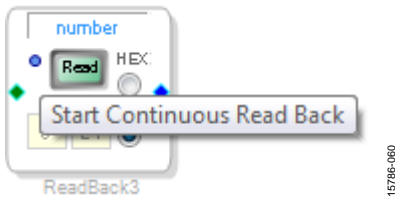

Figure 59. Activating Continuous Readback
- ii. On each of the two **DSP Readback** blocks, click on the blue dot to the left of the **Read** button to read both blocks continuously (see Figure 59).